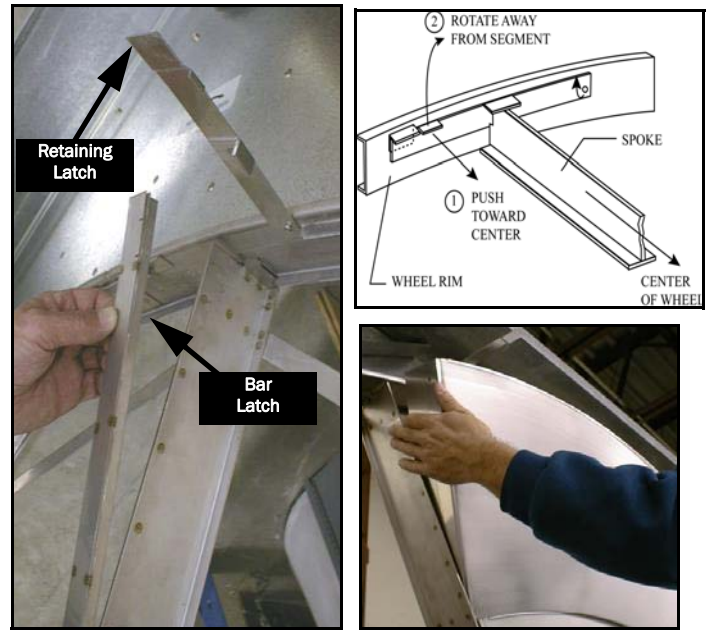

Figure 24 Release retaining latches (following steps 1 and 2 in diagram) and bar latches.
- 4 Use a flathead screwdriver to unlock and open the two segment retaining latches at the top corners of the satellite segment, Figure 24. **BE CAREFUL NOT TO BEND SEGMENT FRAME OR WHEEL RIM.**
- 5 Remove and set aside the bar latches on each side of the satellite segment, Figure 24.
- 6 Remove satellite segment by sliding top end of segment out before the bottom, Figure 24. A flathead Screwdriver may be used in the corners to aid in removal.
- 7 Close the retaining latches, Figure 24.
- Install the corresponding satellite segment by placing the bottom end into position first, then the top end, Figure 24.
- Press straight in against all four corners to fully engage, Figure 24. A sharp rap with heel of hand on segment corners will assist entry when needed.
- When all segments are installed, open the retaining latches of one segment bay at a time to install bar latches on each side of the satellite segments, Figure 24.
- Install each bar latch and reengage the corresponding retaining latch, Figure 24.